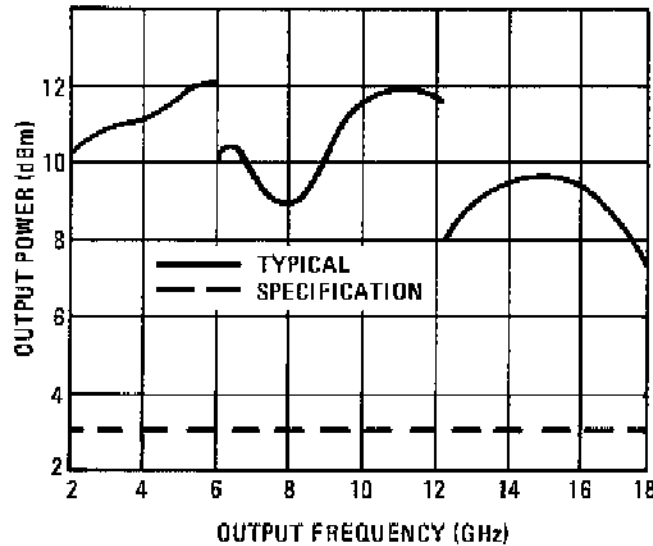

Figure 4-1. Typical Maximum Power Available on the ±10 dBm Range (over-range)
3. Tune from 2 to 18.0 GHz in 100 MHz steps. The power should remain above +3 dBm over the entire frequency range. Figure 4-1 shows a typical output level curve. Be sure the NOT PHASE LOCKED annunciator is off before making power measurements.